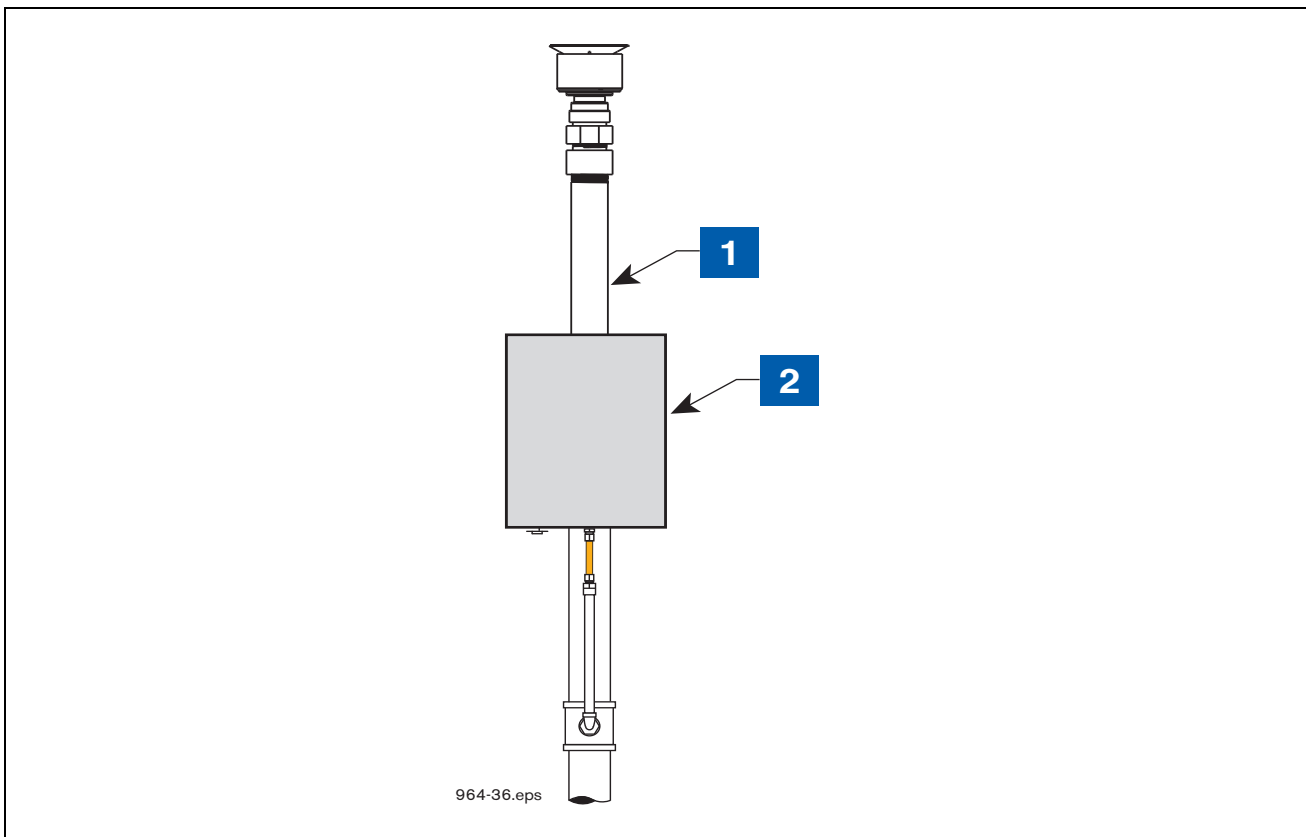

Figure 22. VRPS Mounted In Universal Enclosure On The Vent Stack
1. A Transmitter/battery pack pair must be installed with the Veeder-Root Vapor Return Pressure Sensor (VRPS) in the Universal Enclosure and mounted on the vent stack (see Figure 22).
### LEGEND FOR NUMBERED BOXES IN Figure 22